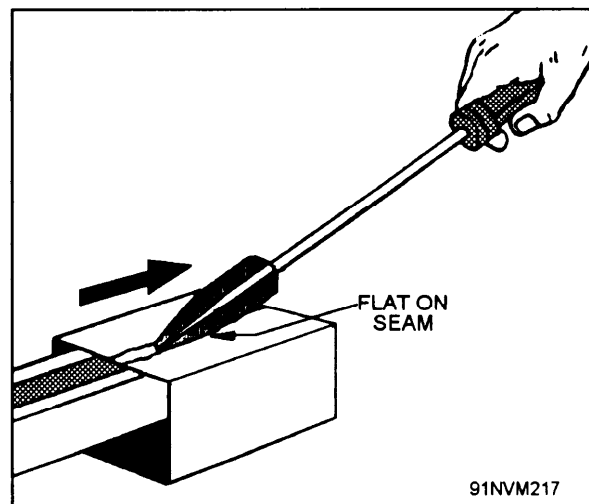

Figure 9-27.—Soldering a seam.
3. Position the work on a suitable support. When a seam is to be soldered, position the work as shown in figure 9-27 so that the seam does not rest on the support. This will ensure that you do not lose heat to the support.
8. After the pieces have been firmly fastened together, solder the seam. Hold the bit so that one tapered side of the head is flat against the seam, as shown in figure 9-27. When the solder begins to flow freely into the seam, draw the bit along the seam with a slow, steady motion. Add as much solder as necessary, without raising the bit from the work.